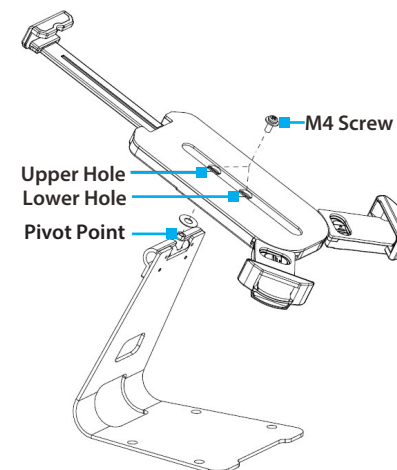

Figure 2
- While the **Table Holder Arm (Top)** is fully extended, align the hole in the **Tablet Holder** with the **Pivot Point** on the **Tablet Stand**. Continue to hold the **Tablet Holder**. (Figure 2)